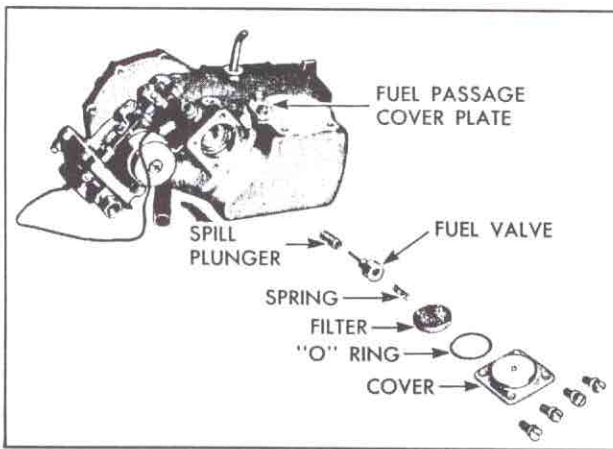

Fig. 132—Fuel Valve Components—Exploded View
4. Invert the fuel meter and remove the four screws and lockwashers securing the fuel valve cover. Remove the cover and "O" ring, then remove the filter, fuel valve, spring, and the spill plunger (fig. 132). Be especially careful not to drop or lose the spill plunger as it is individually matched to the fuel meter casting and is not serviced separately.
5. Detach the fuel passage cover plate by removing the two attaching screws and lock-washers (fig. 132).